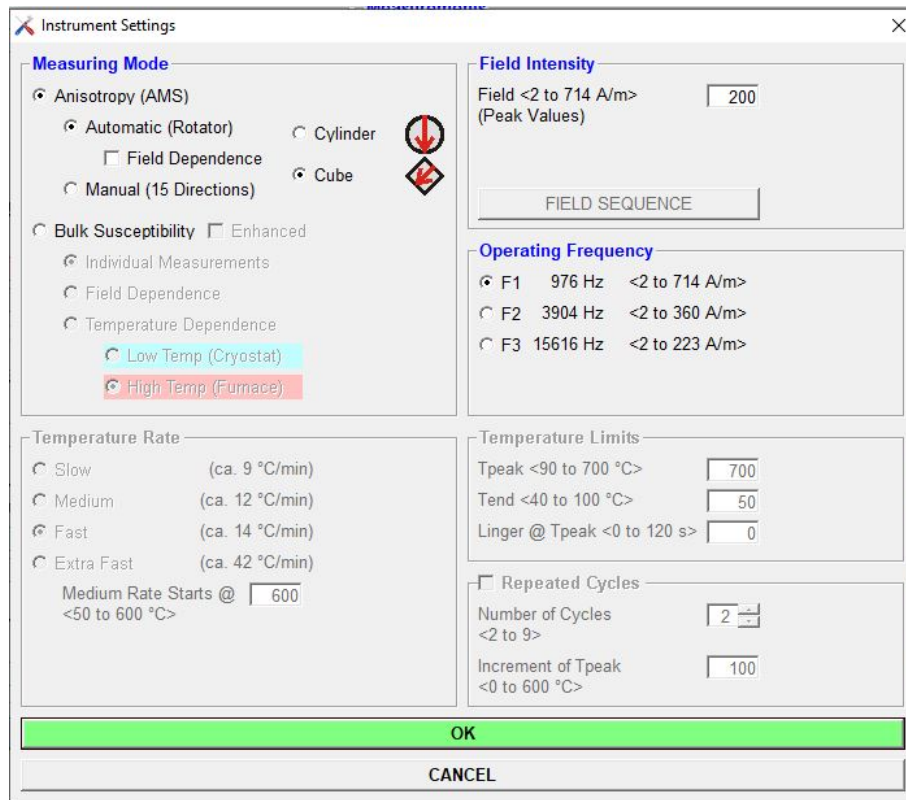

Figure 9: Instrument Settings Window (when 3D rotator is used)
1. Select **Settings: Instrument Settings** or press F12 to open the Instrument Settings window (Figure 9).